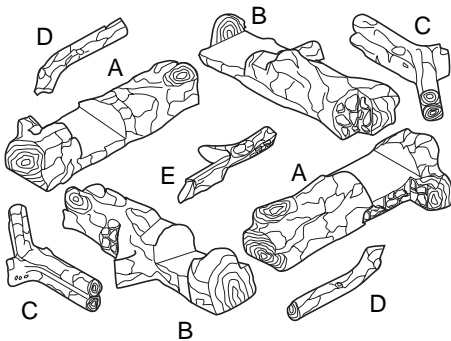

Figure 43 - Log Set (9 Pieces)
6. Figure 43, page 19 shows the log set. Logs "A" have the knot at the end of the log. Logs "B" have the knot at the middle of the log. Twigs "C" have the shape of a "Y". Twigs "D" have the shape of bent twigs. Twig "E" is a straight twig which is placed across the top of Logs "B".